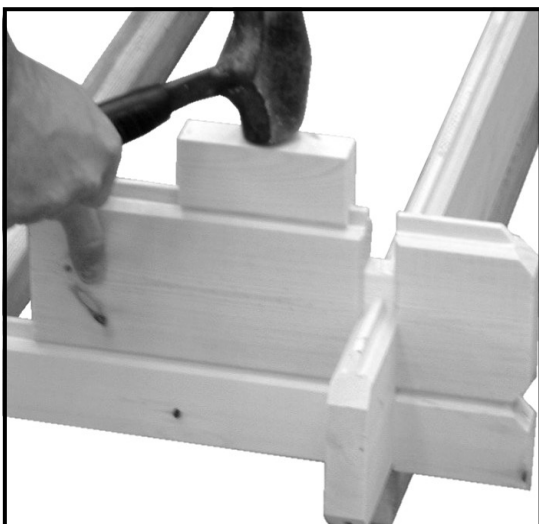

Fig E2
- Each log needs to be tapped home to log below using timber block supplied and a rubber mallet (fig E2).
- Once gables are in place knock down all the walls again as in fig E2 to ensure all the walls and gables are fully home